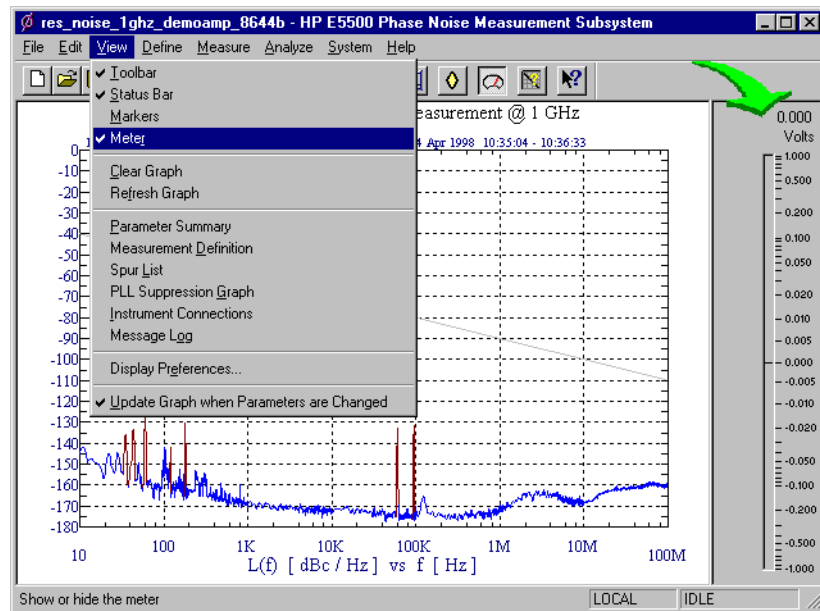

Figure 9-8 Select Meter from View Menu
- 1 From the **View** menu, choose **Meter** to select the quadrature meter. See Figure 9-8.